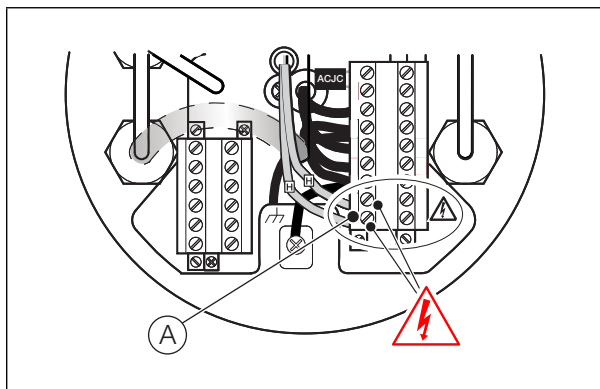

Fig. 3.1 Heater Terminals in Probe Head
Dangerous voltages are present in the probe head across the heater terminals (A) (brown and blue) – refer to Fig. 3.1.